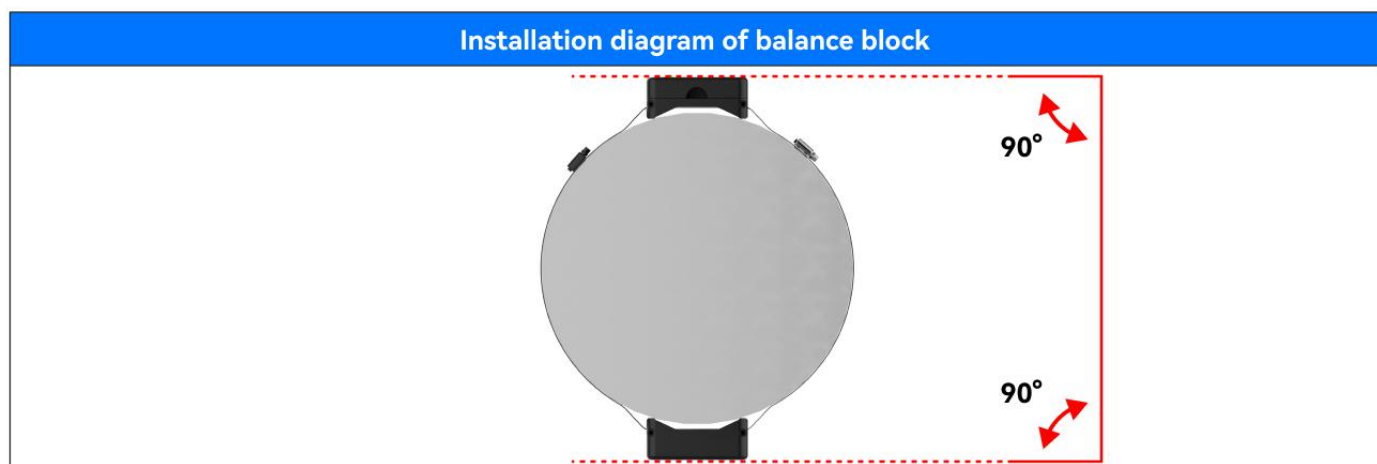

Figure 3.32
2. Tighten the screws in the throat band until the transmitter and counterweight are fixed together and firmly fixed to the shaft. Take care to ensure that the transmitter and the balance block are equally spaced and at a 180 degree Angle to each other, as shown in Figure 3.32.